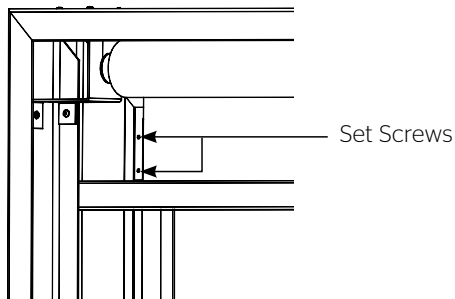

Figure 4 - Back of Frame
4. Using a 5/64" allen wrench, tighten set screws in frame straightener bracket. Adjust set screw so that the front surfaces evenly match at the corner (Figure 4).